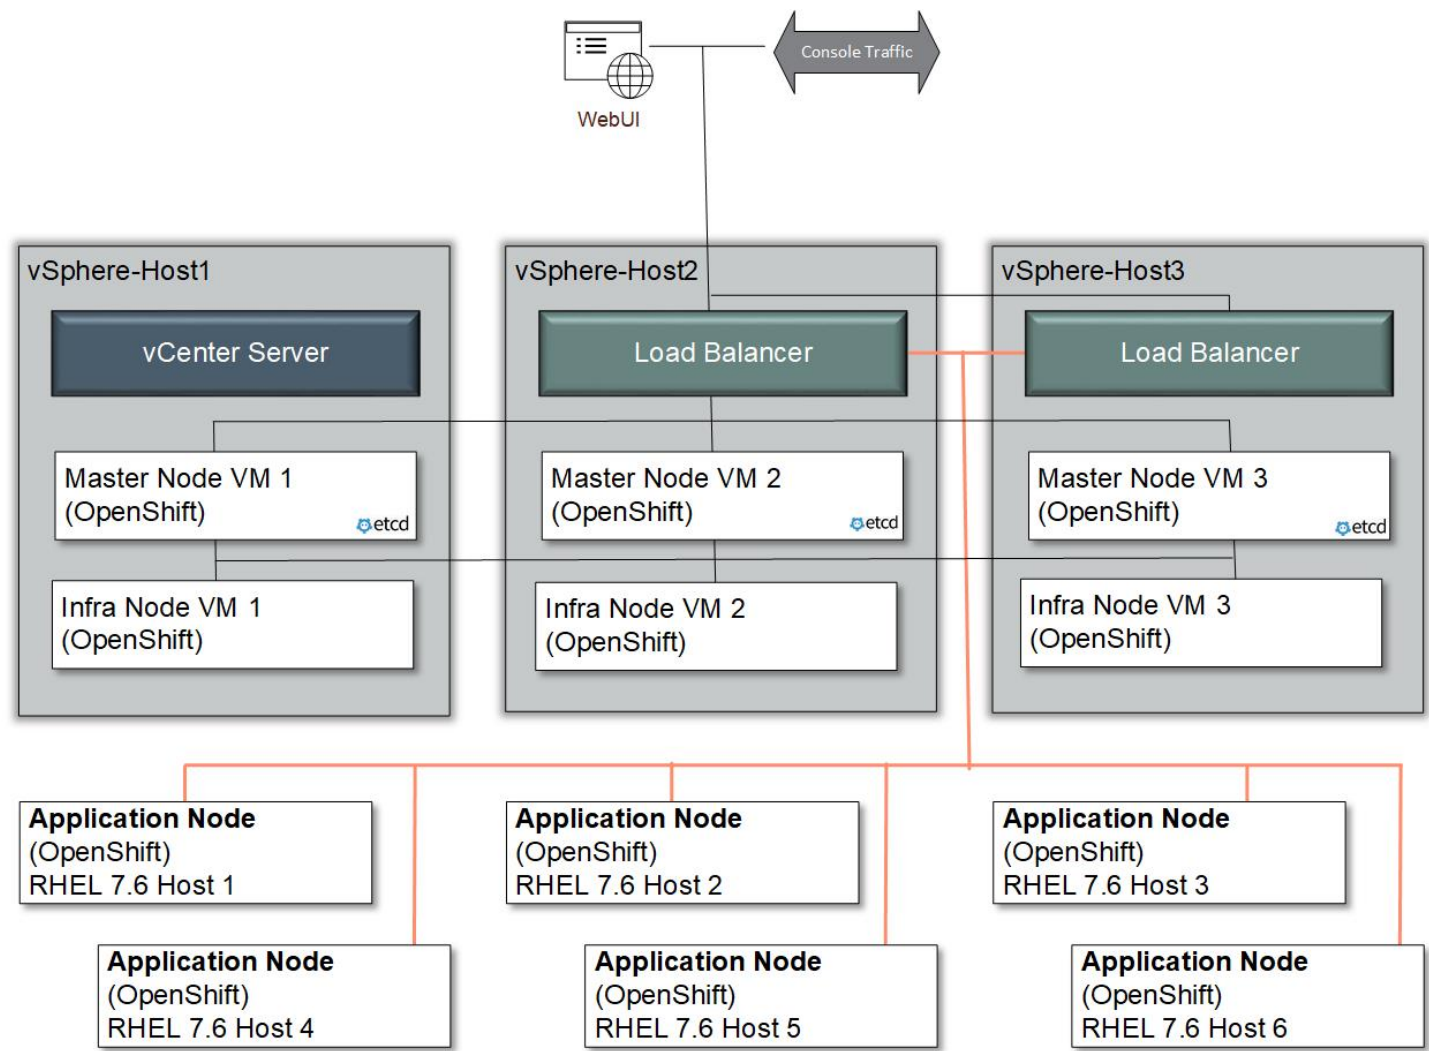

Figure 8. Red Hat OpenShift Container Platform solution component layout
Figure 8 highlights how the individual Red Hat OpenShift Container Platform pieces are laid out within the solution. Three (3) application/worker nodes are shown for clarity, but six (6) nodes were tested in the solution. Virtual worker nodes can also be deployed as part of the solution.